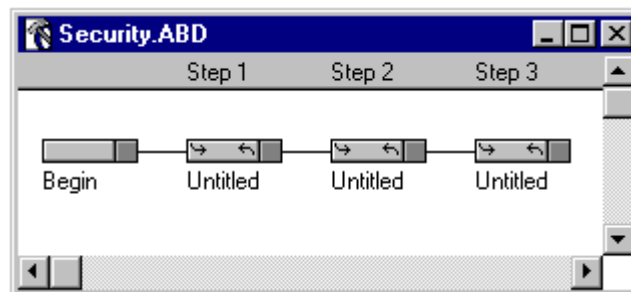

Figure 3-11 Security Application
- Since our application needs Input Handlers in Steps 1, 2, and 3, click the **New Input Handler** button on the toolbar two more times. Your application window should appear similar to Figure 3-11.